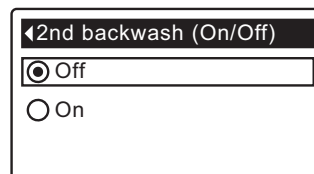

FIG. 70
- 8b. **Second backwash (On/Off):** If the desired option already has a black dot next to it (See Figure 70), go to Step 9. Otherwise, press the DOWN (▼) or UP (▲) buttons to scroll to the other option, then press SELECT (O) to choose it. Setting this feature On adds a second backwash and rinse at the beginning of the recharge cycle. Default is Off. Set this feature On if your water supply contains a lot of sediment or iron.